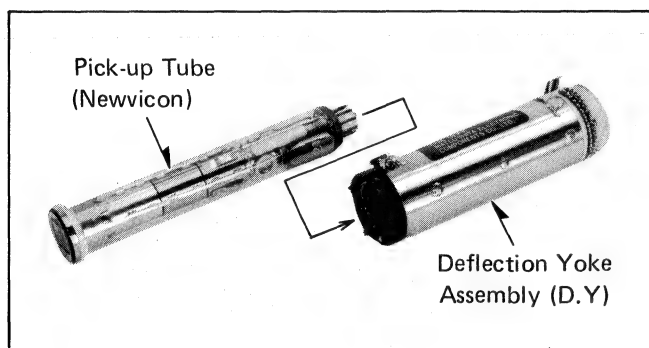

Fig. 11
- 3-10. Install the new pick-up tube (S4400) in the deflection yoke assembly (see Fig. 11).